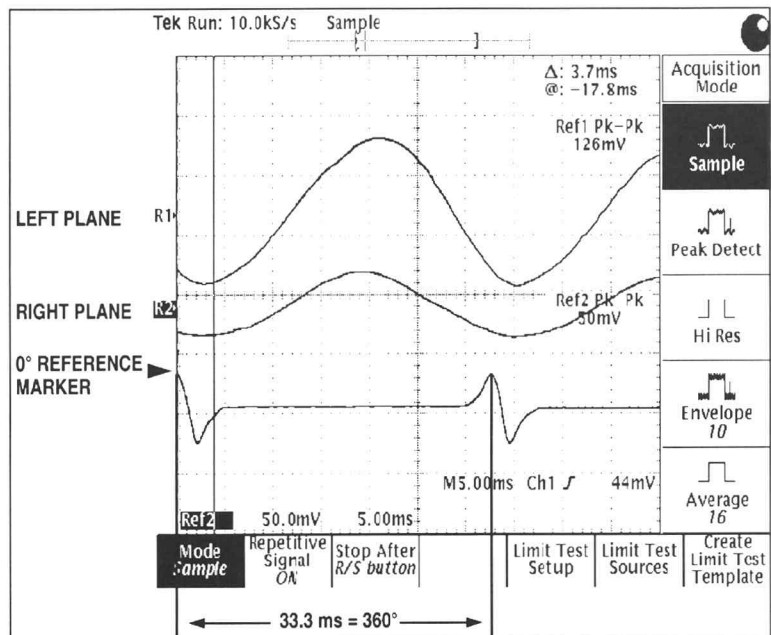

Figure 7.
- (1) **Find Speed in RPM.** Measure the time between rotational markers on the pip coil signal using the vertical bar cursors or the automatic PERIOD measurement. Figure 7 shows the time between two adjacent peaks on the displayed waveforms as 33.3 ms.